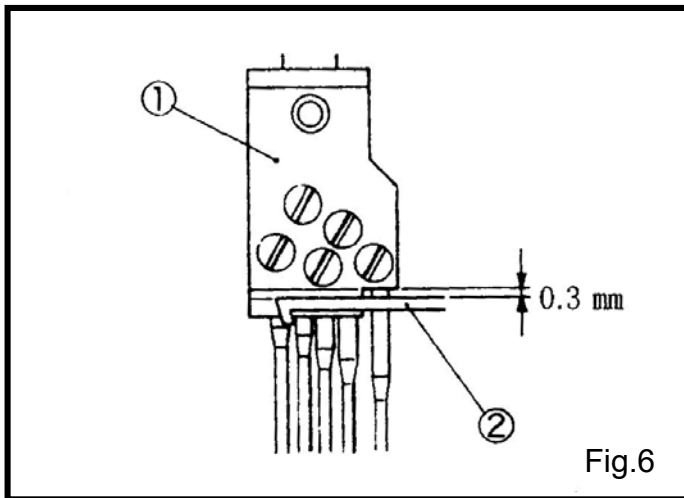

Fig.6
2. 當針柱在最低位置和壓腳完全抬舉時，針鉤①和上網線勾②需留間隙 0.3mm。(Fig.6)
2. As standard , make the clearance between the notch of the needle clamp① and the top cover thread hook② to 0.3mm when the needle bar is at the lowest point and the presser foot is raised by pressing the presser foot pedal. (Fig. 6)